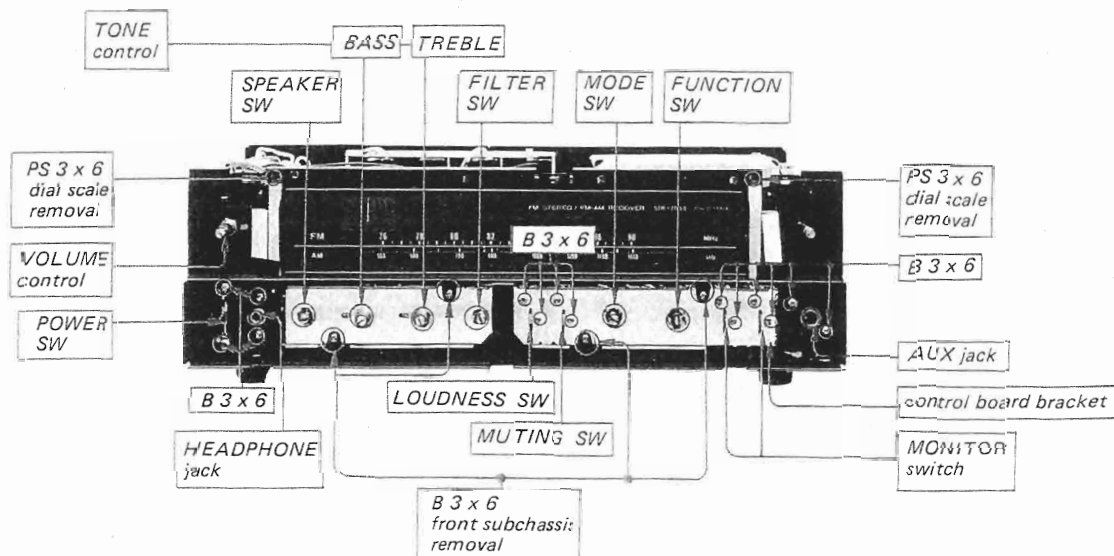

Fig. 2-10. Control, jack and switch replacement (1)
4. Remove the nut securing the VOLUME control to the front subchassis shown in Fig. 2-10.
1. Remove the two screws securing the defective switch or jack to the front subchassis as shown in Fig. 2-10.
1. Remove the four screws (B 3 x 6) securing the control board bracket to the subchassis as shown in Fig. 2-10.
3. Remove the nut securing the defective control or two screws (B 3 x 6) securing the defective switch to the control board bracket as shown in Fig. 2-10.